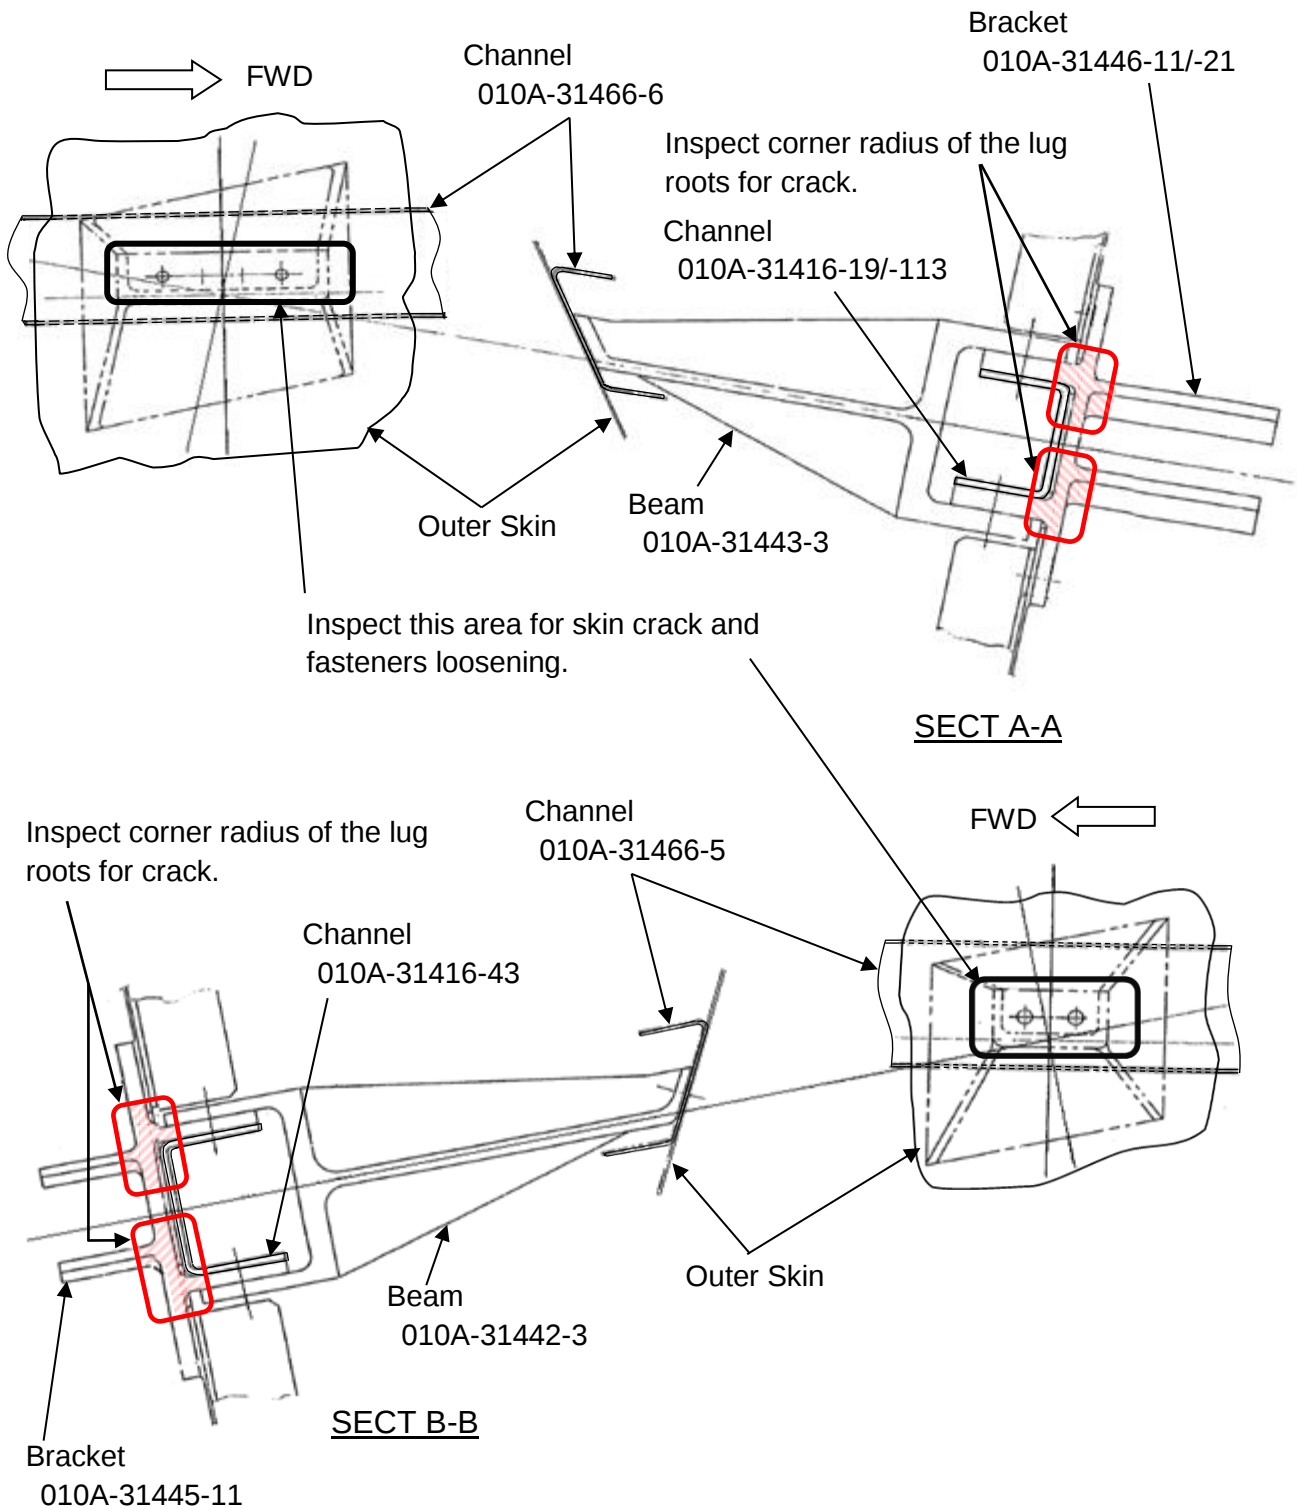

Figure 5: Drag Strut to Fuselage Bracket
- (2) Visually inspect Outer Skins around fasteners which are installed common to Outer Skin, Channel and Beam for crack and loosening fasteners in the area shown in Figure 5.
- (3) Visually inspect Channels (010A-31466-5/-6) between Outer Skin and Beam, and Channels (010A-31416-19 (S/N 313SA and 321SA only), 010A-31416-113/-43) attaching to outboard lugs of Brackets for crack and deformation shown in Figure 5.